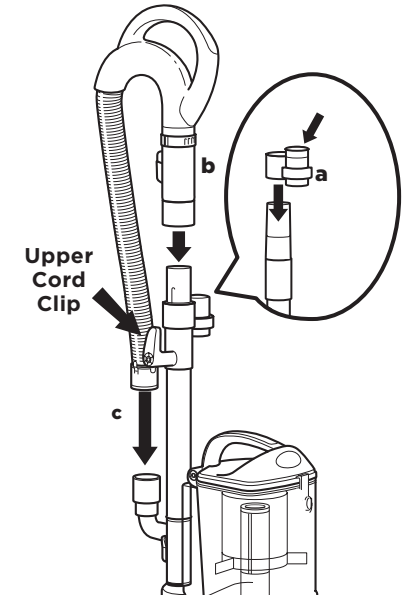

Fig. 10
- 4 Slide the accessory holder **(a)** (positioned opposite the upper cord clip), over the wand. Align the tab with the groove and push down. **(Fig. 10)**
- 5 Push the handle **(b)** onto the top of the wand until it clicks into place. **(Fig. 10)**
- 6 Insert the end of the stretch hose **(c)** into the connector on the back of the pod. **(Fig. 10)**